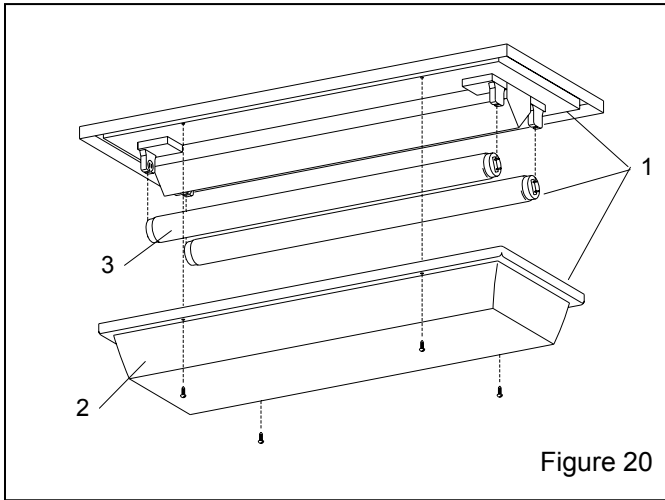

Figure 20
9.6 Light Shield Assembly, Figure 20